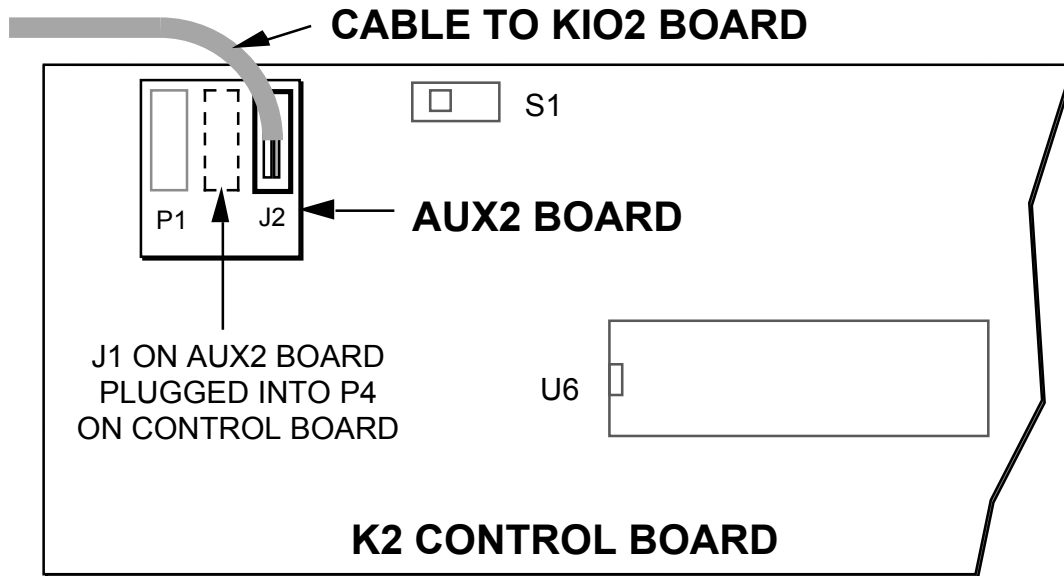

Figure 6
- Plug the AUX2 board into the K2 Control board at P4 (the Aux I/O connector) as shown in Figure 6. When the AUX2 board is correctly installed, it will be about 0.1" (2.5 mm) below the top edge of the control board. **Do not proceed until the AUX2 board is correctly installed, with all 10 pins mated.**
- Plug the AUX2 board assembly into the K2 Control board. Make sure the AUX2 board is oriented as shown in Figure 6.